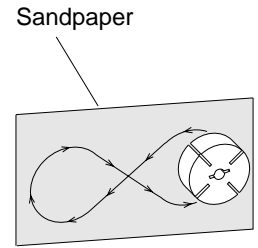

Figure 30 - Sanding Rotor
14. Place fine grade sandpaper (600 grit) on flat surface. Sand rotor lightly in “figure 8” motion four times (see Figure 30).